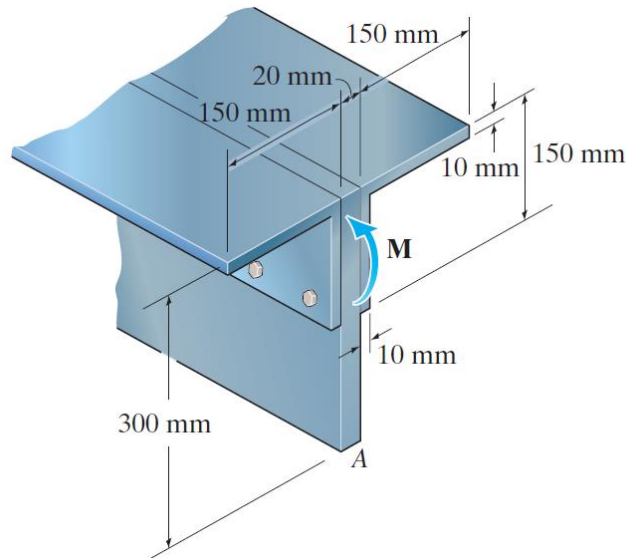

Figure Q2a
- (a) Figure Q2a shows a beam that is subjected to an internal moment of  $M = 75 \text{ kNm}$ , determine the maximum tensile and compressive stress acting in the beam.